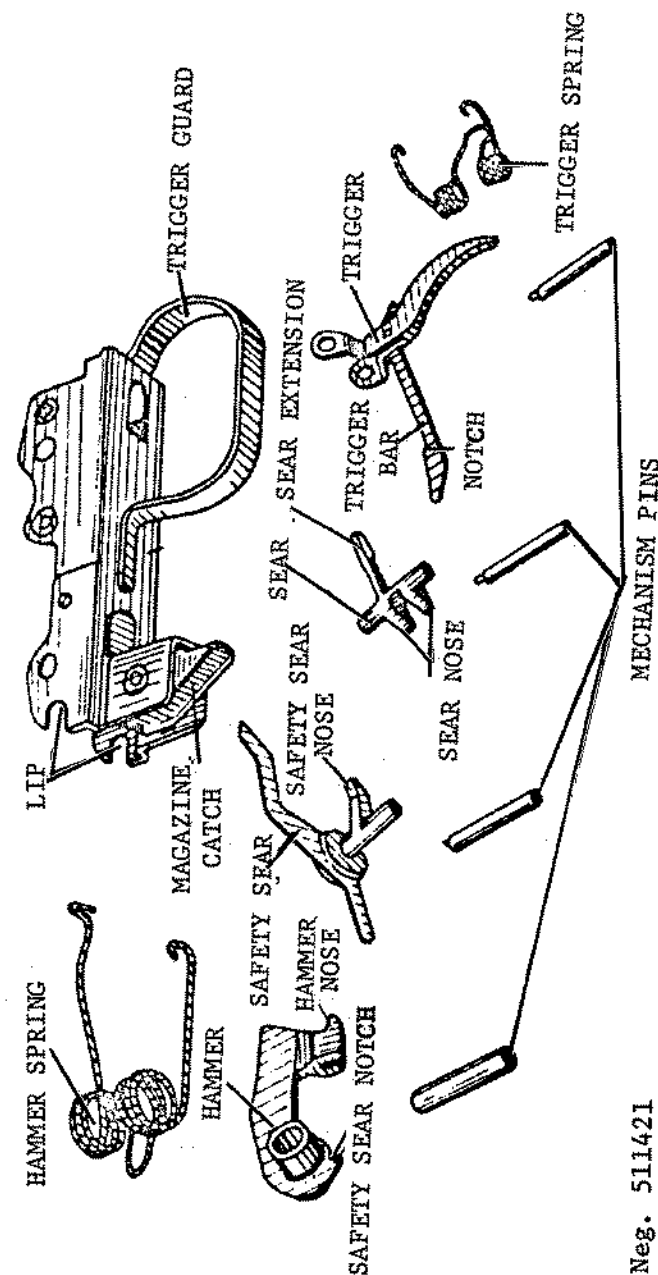

Figure 122. SVD trigger mechanism parts.
i. Insert the trigger group into its recess in the receiver and when the trigger and receiver are lined up, insert the shaft of the safety (fig 122) into its hole in the receiver. Turn the safety so that its arm is vertical, fully seat the safety into the receiver, then turn it down to its position.
carrier continues forward and the cam in the carrier, acting upon the bolt operating lug, rotates the bolt into the locking recesses in the receiver. After the bolt locks, the carrier continues forward for a short distance; this travel causes the safety lug on the carrier to move out of the path of the hammer and the carrier to trip the automatic safety sear (fig 122). The carrier finally strikes the receiver and stops.